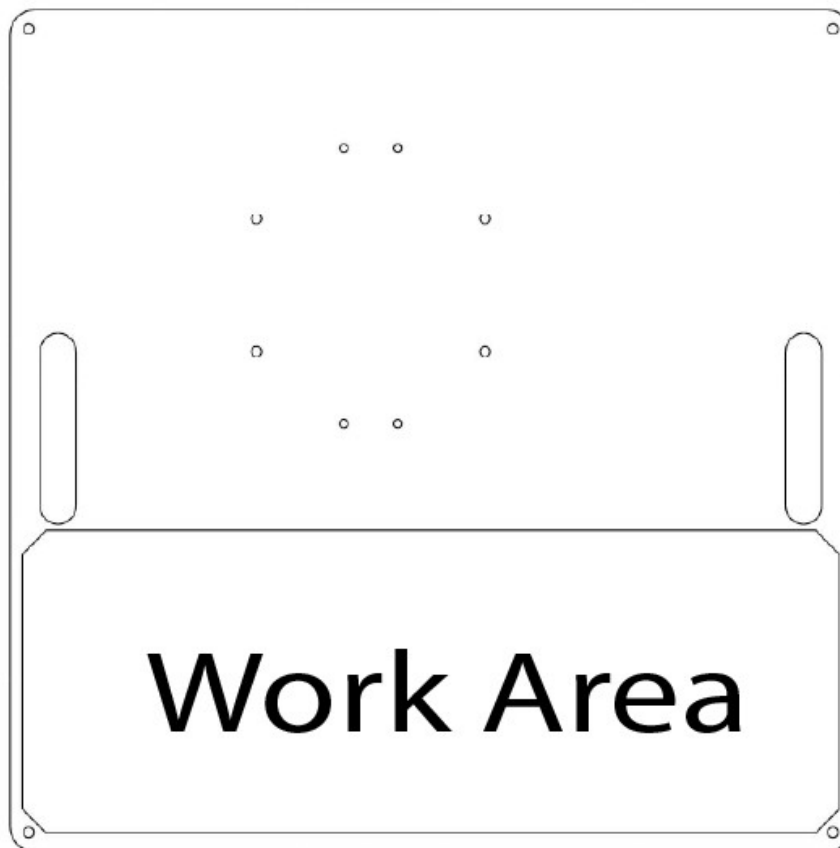

Figure 1: Base Plate orientation
2. Unpack the base plate (optional) from its separate box and put it in your selected spot with the mounting holes oriented away from you (**figure 1**). If you wish to secure the stand directly to the floor, you need to drill holes and install anchors according to the schematic at the end of this manual.